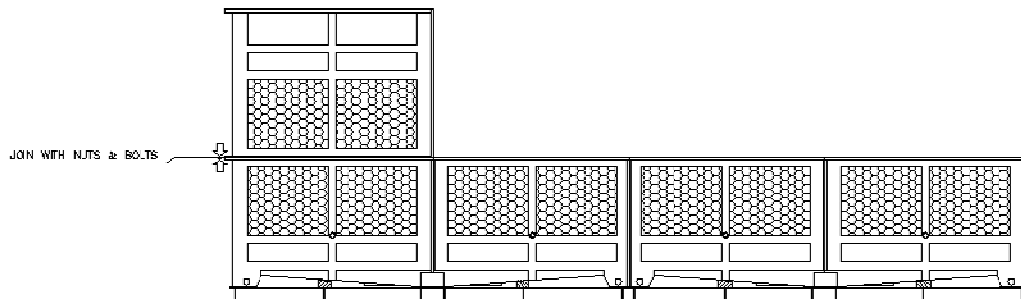

Figure A-26: Upper Air Inlet Section 1 Installation
- H. Place **Upper Air Inlet Section 1** on top of Basin Section 1, making sure that the bolt holes on Upper Air Inlet Section 1 are aligned with the perforations on Basin Section 1, then bolt down and secure the horizontal flanges with the stainless steel nut and bolt sets supplied by REYMSA (See Figure A-26).